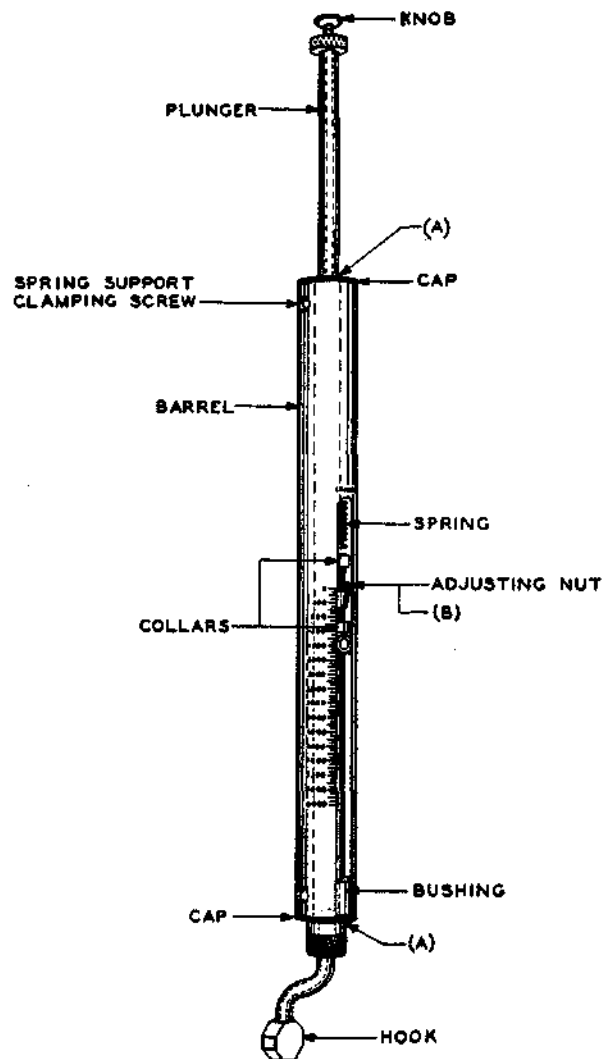

Fig. 6 - Designation of Parts of Nos. 79D, 79E, and 79F Gauges (No. 79E Gauge Illustrated)
**2.07 Shaft Assembly Position (Nos. 79D, 79E, and 79F Gauges Only):** Fig. 6(B) - When the plunger is moved to either extreme position, the adjusting nut shall not touch the barrel.
**2.08 Adjusting Nut Location (Nos. 79D, 79E, and 79F Gauges Only):** Fig. 6(B) - With the gauges held in a vertical position, either end at the top, it shall be possible to revolve the adjusting nut to a position where either edge of the indicator groove can be brought into alignment with the zero graduation on the side of the barrel nearest to it. When so adjusted, the clearance between the ends of the adjusting nut and the adjacent surfaces of the associated collars on the Nos. 79D and 79E gauges shall be
**2.10 Tightness of Spring Support Clamping Screws:** Fig. 6 - The clamping screws shall be sufficiently tight to hold the spring support in its adjusted position.